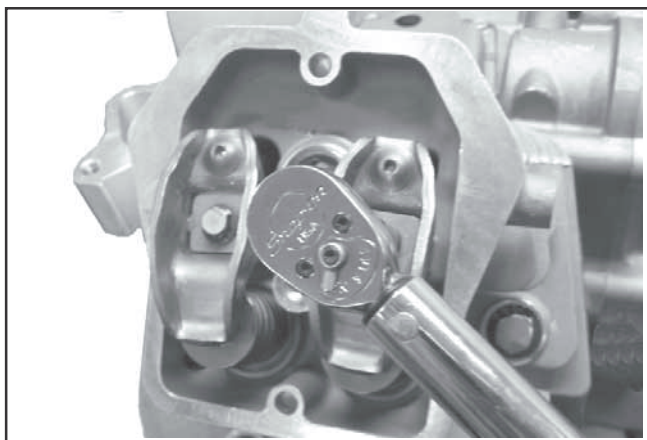

Figure 10-54. Torquing Rocker Arm Screws.
4. Torque the hex flange screws to 14.6 N·m (130 in. lb.). See Figure 10-54.